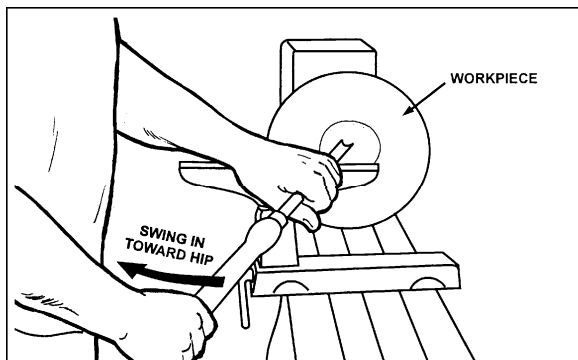

Figure 9-11
5. Place 1/2" bowl gouge on tool support at center of the workpiece with the flute facing top of bowl. The tool handle should be level and pointed toward the four o'clock position, as shown in Figure 9-11.
6. Use the left hand to control cutting edge of gouge, while right hand swings tool handle toward your body (Figure 9-11). The flute should start out facing top of workpiece, and rotate upward as it moves deeper into the bowl to maintain a clean even curve. As the tool goes deeper into the bowl, progressively work out toward the rim. It may be necessary to turn the tool support into the piece as you get deeper into the bowl.